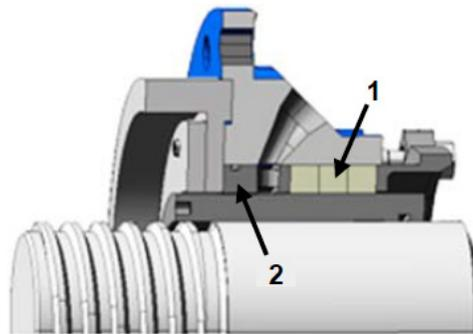

Figure 9-1: Throat Bushing Design
- **Throat Bushing:** (Figure 9-1; **1** is the packing, and **2** is the throat bushing.) Standard for GIW/KSB’s LSA–style pumps (including MDX), this design produces a throttling effect that restricts seal water flow in the pump while maintaining pressure and flow at the packing rings. This design reduces the amount of water that enters the process flow while providing an easy-to-maintain stuffing box assembly.